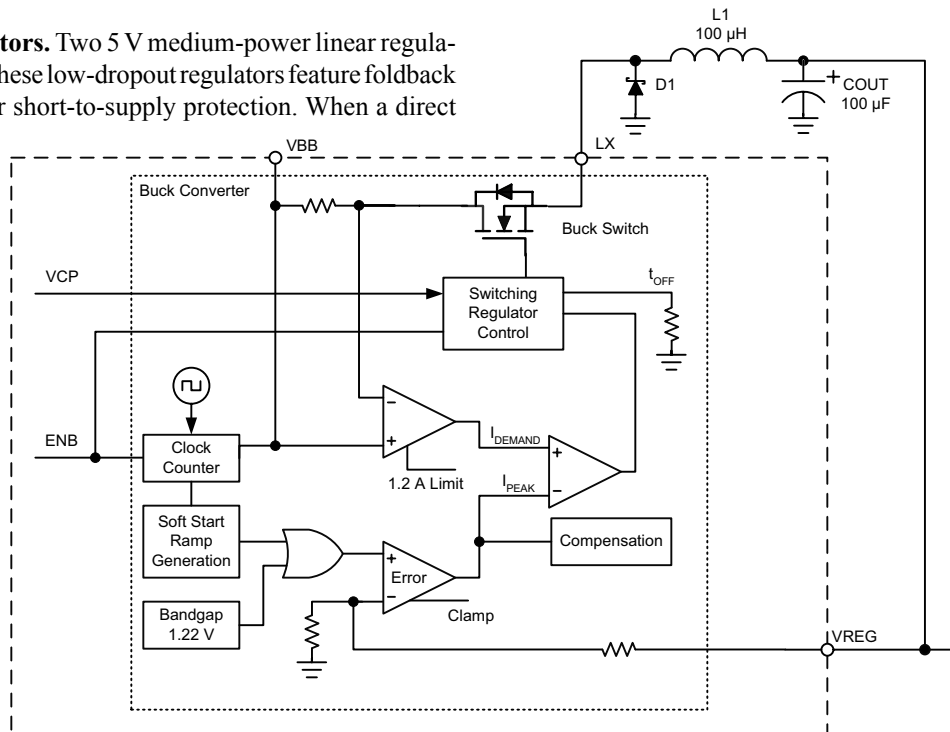

Figure 2. Buck converter with switching regulator
**Buck Converter with Switching Regulator.** A current-mode, variable frequency buck dc-to-dc converter and switching regulator are integrated in the A8450, as shown in figure 2. This feature allows the device to efficiently handle power over a wide range of input supply levels. The dc-to-dc converter outputs 5.7 V typical, and has an overcurrent limit of 1.2 A typical.